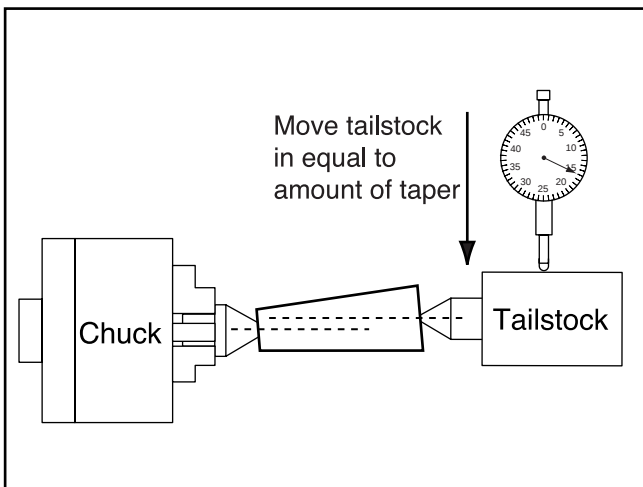

Figure 31. Adjusting for headstock end taper.
6. Measure the stock with a micrometer. If the stock is fat at the tailstock end, the tailstock needs to be moved toward you the amount of the taper. **Figure 31.** If the stock is thinner